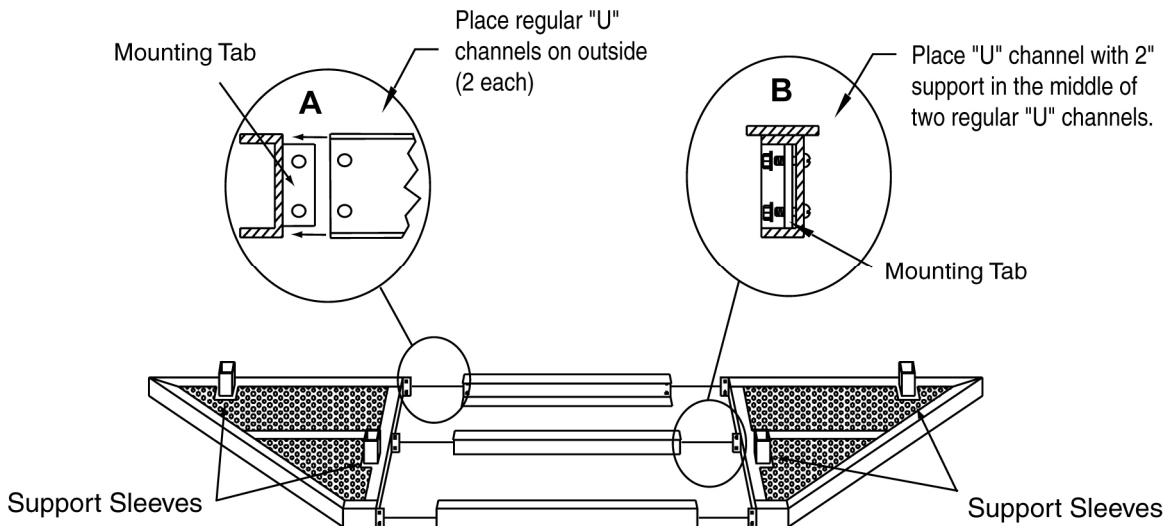

Figure 26. Canopy mounting tabs and support sleeves
2. Place the “U” channel in between the two triangle-shaped end pieces with the “U” channel facing inward. Line up the holes and bolt into place (Figure 26 A and B). Repeat this step for the opposite end of the “U” channel.
The two-position (male) connector has two metal prongs at the end of it. These prongs fit into the female receptacle of the other connector. Match up the two-position wire (female) with the two-position wire (male) and securely attach them together (Figure 26 - Insert). This step must be repeated for each main support post.